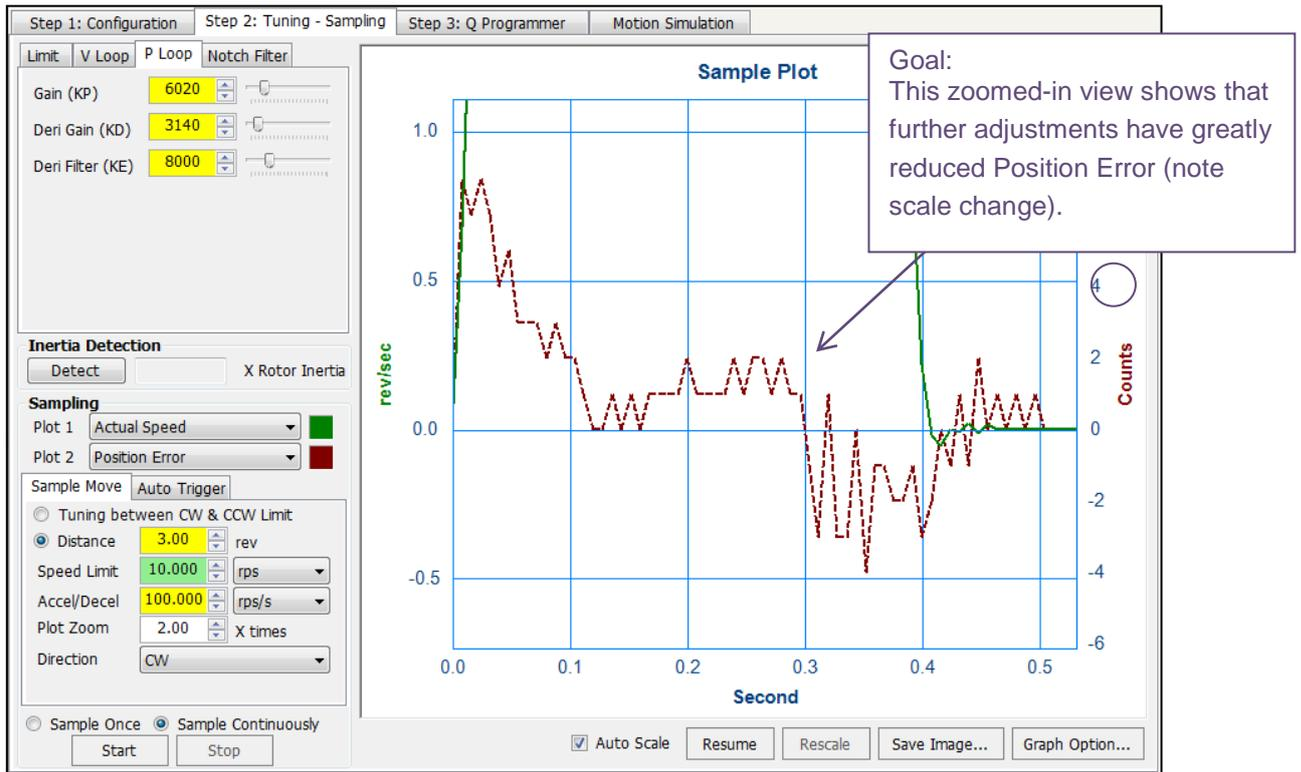

Fig. 6.3.5b: Zoomed in view of Position Error plot, shows range of less than ± 10 encoder counts
- Zoom in with cursor to view position error (see **Fig. 6.3.5b**)